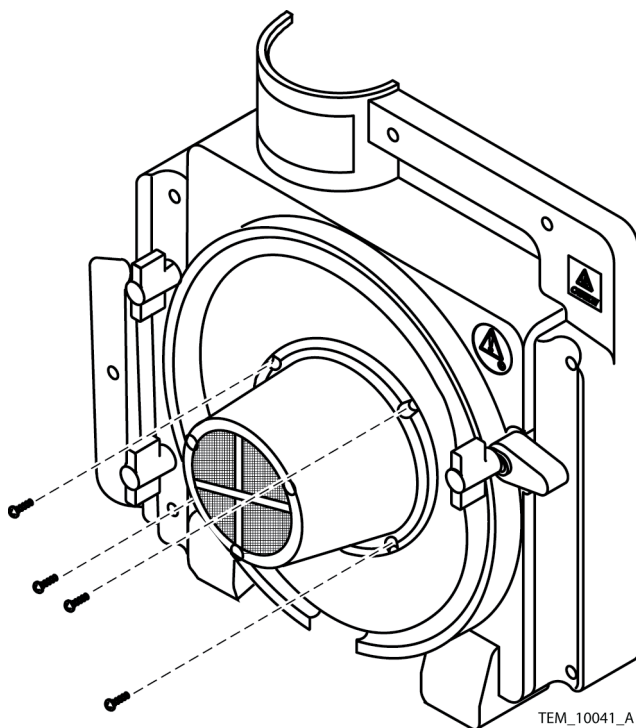

Figure 5-61. Blower Screws
35. Install the blower assembly mounting screws into the rear cover assembly. Tighten the screws to 4 to 6 in/lbs (10 to 15 cm/kg). See Figure 5-61.